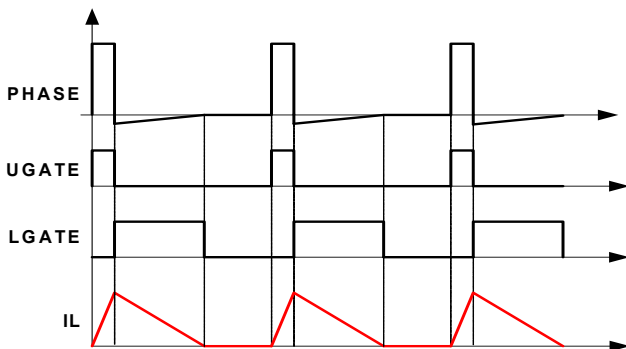

FIGURE 8. DIODE EMULATION
The ISL95712 can operate in Diode Emulation (DE) mode to improve light-load efficiency. In DE mode, the low-side MOSFET conducts when the current is flowing from source-to-drain and does not allow reverse current, thus emulating a diode. Figure 8 shows when LGATE is on, the low-side MOSFET carries current, creating negative voltage on the phase node due to the voltage drop across the ON-resistance. The ISL95712 monitors the current by monitoring the phase node voltage. It turns off LGATE when the phase node voltage reaches zero to prevent the inductor current from reversing the direction and creating unnecessary power loss.
If the load current is light enough, as Figure 8 shows, the inductor current reaches and stays at zero before the next phase node pulse, and the regulator is in Discontinuous Conduction Mode (DCM). If the load current is heavy enough, the inductor current will never reach 0A, and the regulator is in CCM, although the controller is in DE mode.